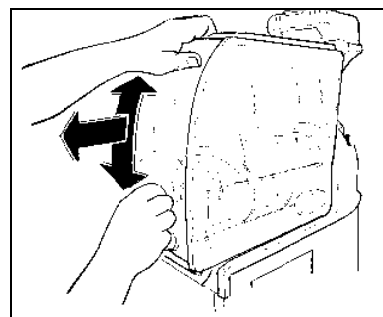

Fig. 15
- Slightly move up and down the bowl as shown in figure 15 while pulling it outwards, this operation will help fully removing it from its seating.